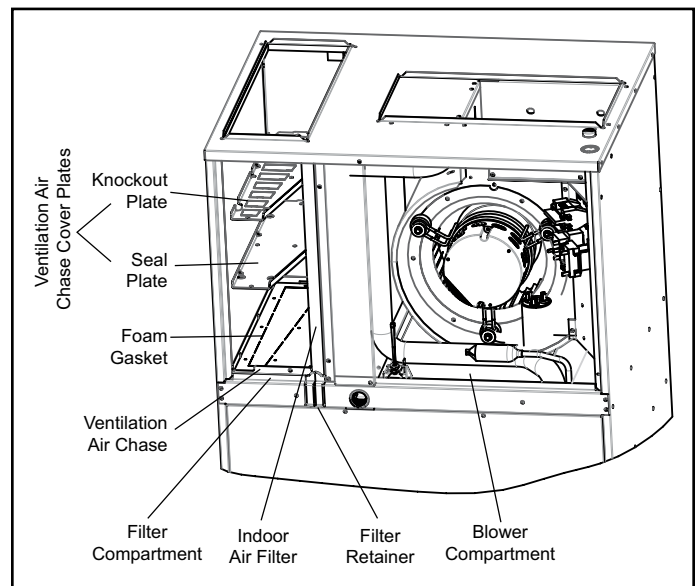

Figure 2. Access Panel & Ventilation Chase Cover Plate Removal
- Remove Filter Compartment Access and Blower Compartment Access Panels (see Figure 2).
- Remove Chase Cover Plates (see Figure 2):